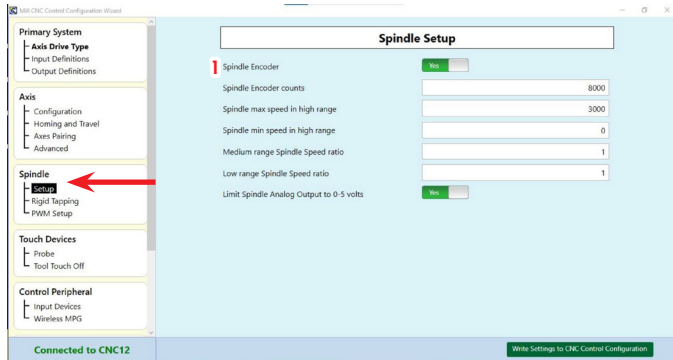

FIGURE 19—Set the Spindle Encoder to “Yes.”
7. Spindle Setup: The Spindle Encoder has to be ON (Yes) to work with a mechanical encoder (see Figure 19).